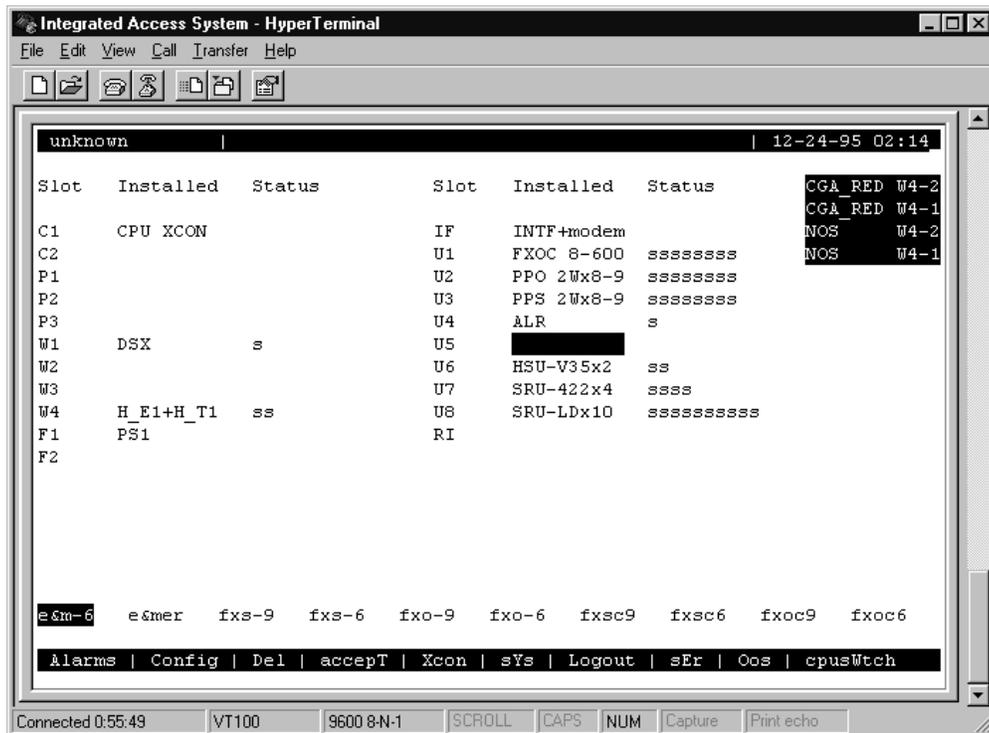

Figure 4-23. Typical Card Slot and Type Selection
2. Place the cursor on the first user card slot that will have a card. In Figure 4-23, slots U5 through U8 will be assigned to 30 time slots on the E1 WAN port.
4. Select the type of voice card from the types listed above the bottom line of the screen, as shown in Figure 4-23. In that screen, **e&m-6** is chosen as the card type (E&M, 600 ohms).